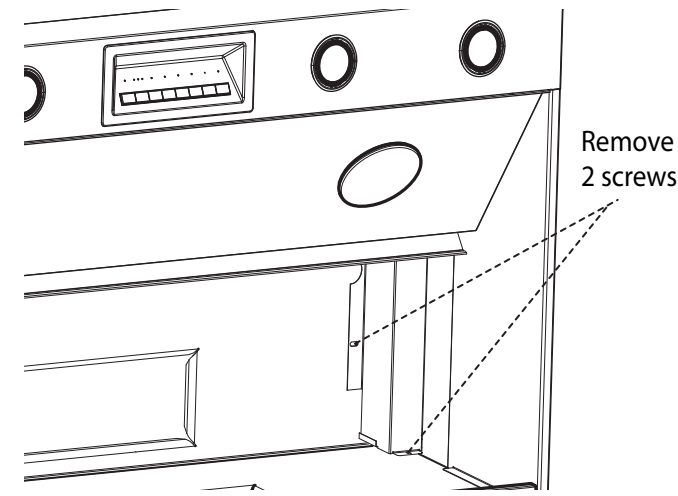
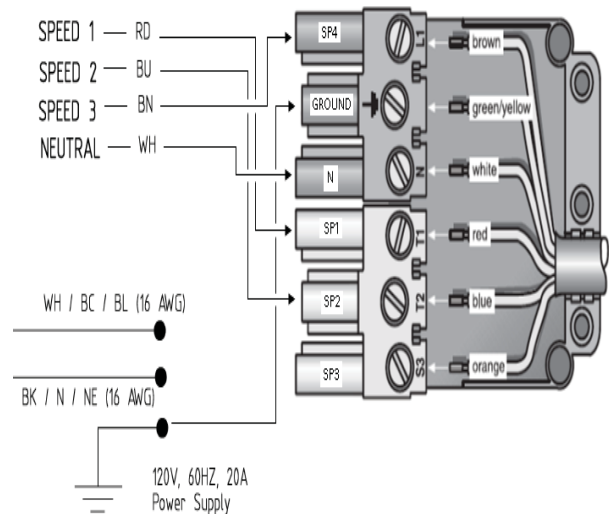
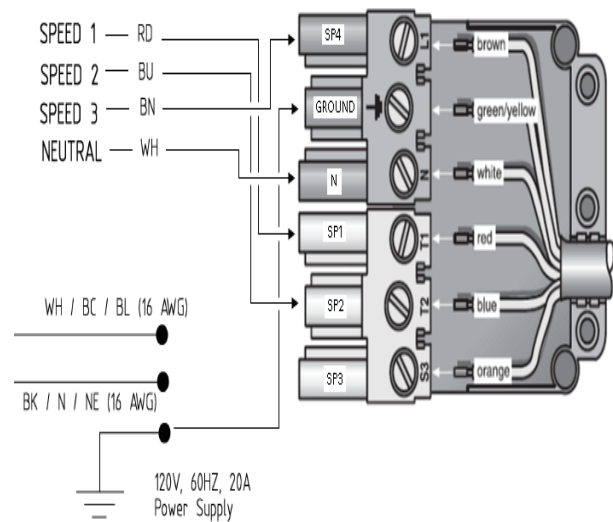

Figure 12: Junction Box Channel
Figure 21: Wiring the Hood with a Remote Blower
Figure 23: Wiring the Hood with an Inline Blower
1. Remove junction box channel covering the wires (see Figure 12 on page 10).
2. Remove circular knockouts (Figure 12 on page 10).
1. Remove junction box channel covering the wires (see *Figure 12 on page 10*).
2. Remove circular knockouts (*Figure 12 on page 10*).
- Lost or missing wire nuts should only be replaced with spring type wire nuts, rated for a minimum of two (2) #18 gauge wires and maximum of four (4) #14 gauge wires, UL & CSA rated to 600V and 302°F (150°C).
7. Run five (5) #14 AWG wires in 1" (25.4 mm) conduit from the remote blower to the second conduit connector.
8. Connect the remote blower to the pigtail wires as per *Figure 21*. Connect the remote blower green (ground) wire to the ground screw in the junction box. Refer to the blower installation instructions for further wiring details.
7. Run five (5) wires (#14 AWG) in 1" (25.4 mm) conduit from the inline blower to the second conduit connector.
8. Connect the inline blower to the pigtail wires as per *Figure 23*. Connect the inline blower green (ground) wire to the ground screw in the junction box.